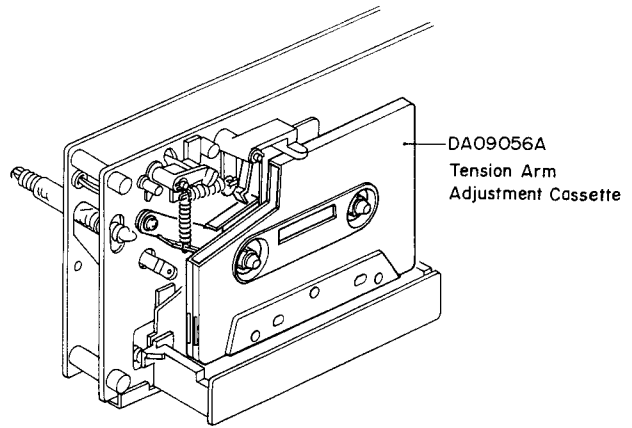
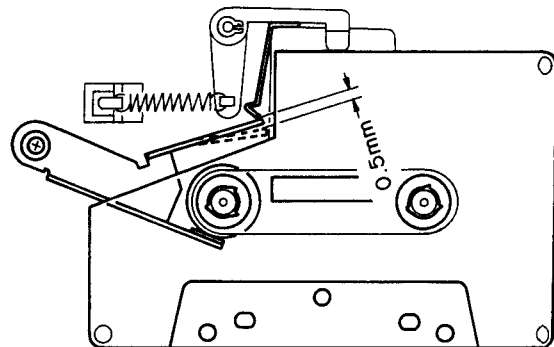

Fig. 4.12
Fig. 4.13
Refer to Figs. 4.12 – 4.14.
- (1) Load a Tension Arm Adjustment Cassette (DA09056A) in the LX-3 referring to Fig. 4.12.
- (2) Set the LX-3 in Play mode.
- (3) Bend the Back Tension Arm with pliers so that the gap between the Cassette Holding Spring assembled on the Head Base Ass'y and the Back Tension Arm becomes 0.5 mm as shown in Fig. 4.13. Do not bend the top of the Back Tension Arm.
- (4) Load the Back Tension Gauge (DA09055A) in the LX-3.
- (5) Set the LX-3 in Play mode and read the torque value of Back Tension Gauge.